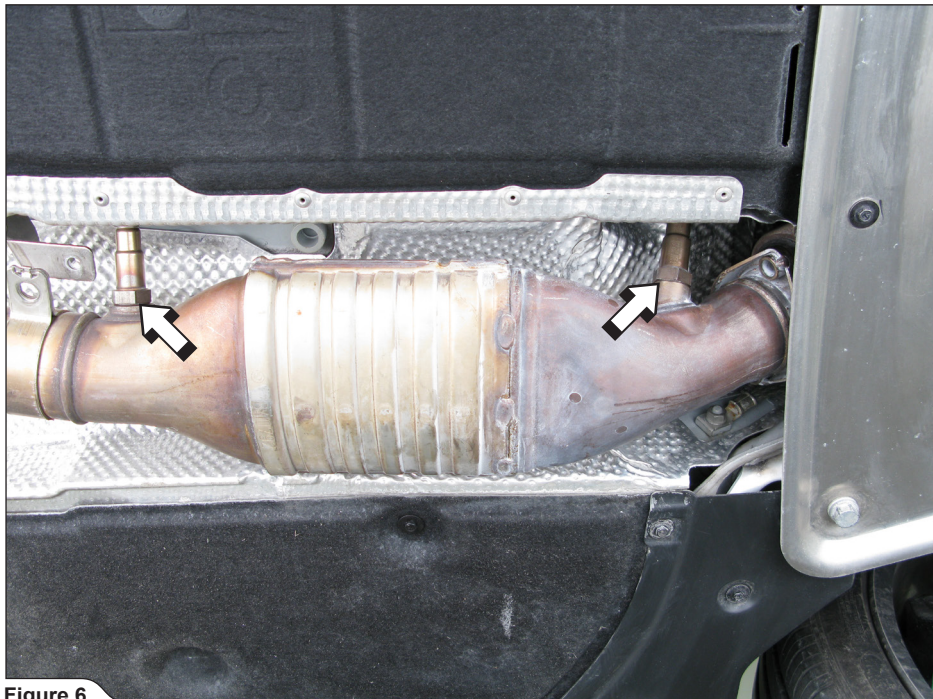

Figure 6
6. Unscrew all four lambda sensors on both sides of the vehicle (**Figure 6**).